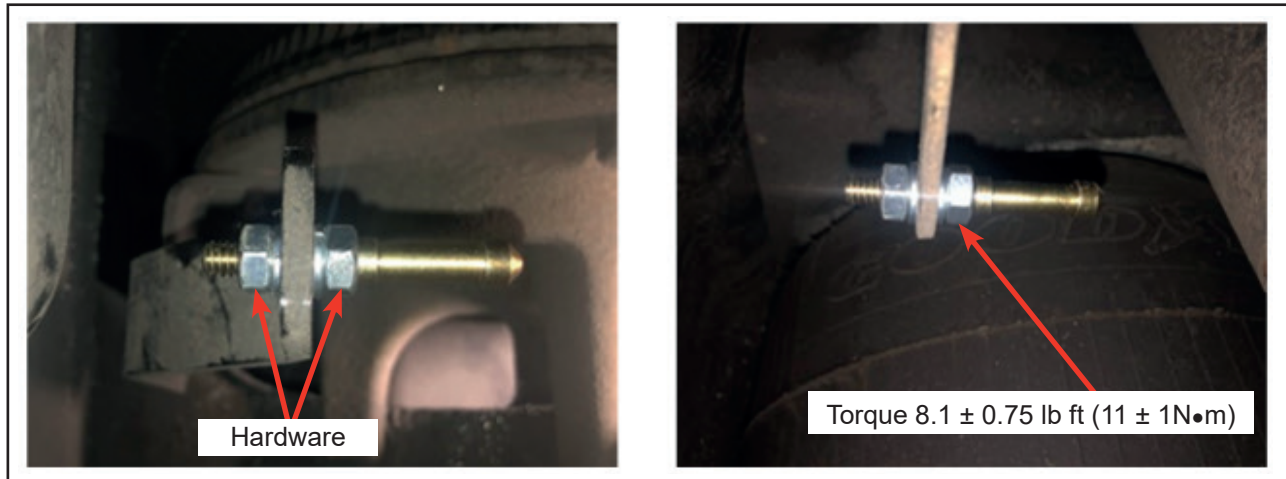

Figure 23 - Tightening the hardware
1.48. Secure top and bottom hardware and torque the nuts to  $8.1 \pm 0.75$  lb ft ( $11 \pm 1$  N•m) (See Figure 23).